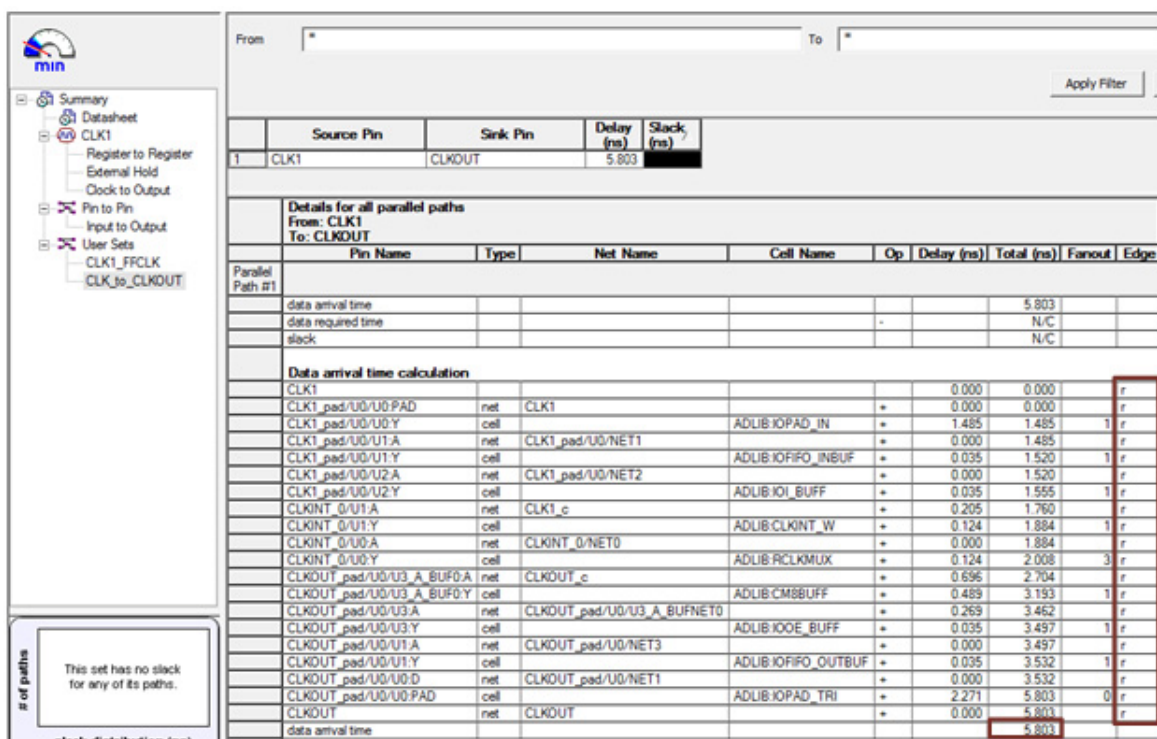

Figure 20 • SmartTime Showing CLK to CLKOUT Delay in Minimum Delay Window
3. In the Minimum Delay Analysis view, get $T_{min, best}(clk)$ from the CLK_to_CLKOUT path set (Figure 20). Ensure that you extract the same edge as the clock path in the external setup standard calculation. If the correct edge is not there, change the options in SmartTime to show more than one parallel path.